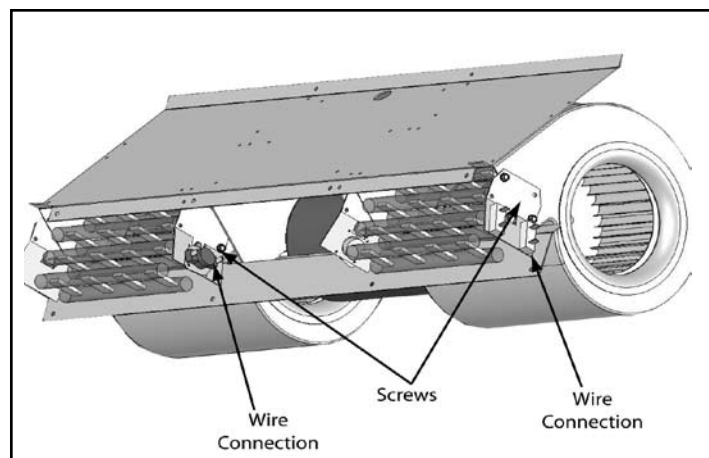

FIGURE 14 - Location of screws
3. Disconnect the (4) power wires and (2) control wires per element.
4. Remove the (4) screws that hold the element to the blower housing. **See Figure 14** for location of screws and wire connections.